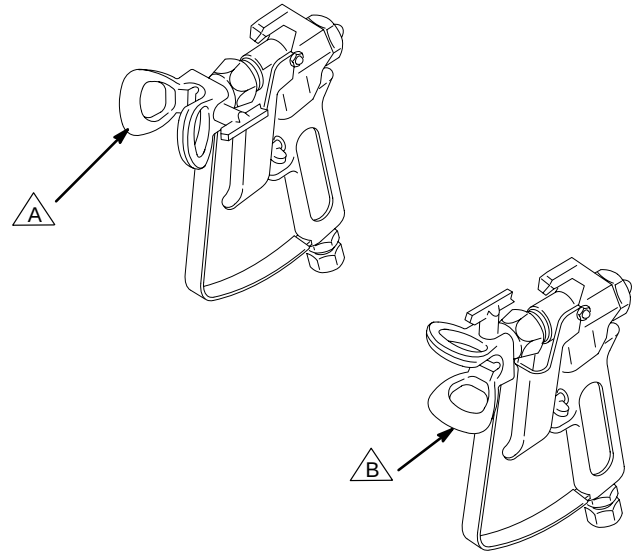

Fig. 8
- c. Test the spray pattern. To adjust the direction of the spray pattern, engage the gun safety latch and loosen the retaining nut. Position the tip guard horizontally for a horizontal pattern or vertically for a vertical pattern. Hold the tip guard in place while tightening the retaining nut. See Fig. 8.